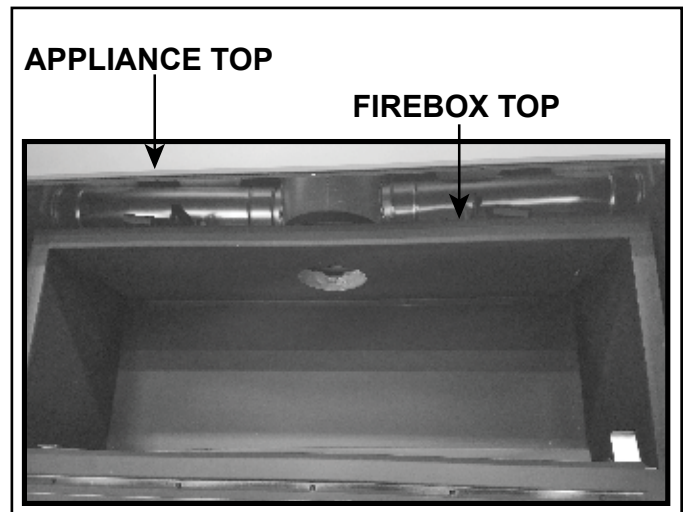

Figure 17
8. Inspect for and remove all debris that may have accumulated or objects that may have been placed on the firebox top and appliance top during the installation process. All debris and objects must be removed prior to operation of the appliance. Firebox top and appliance top are shown in Figure 17.